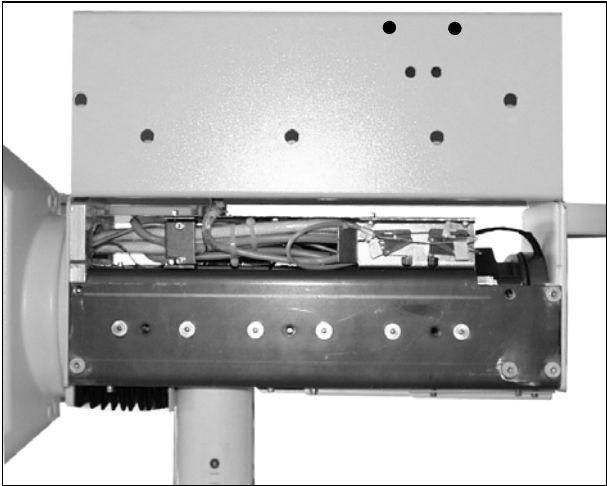

Fig. 28
- expand the cover slightly and push it up (Fig. 28).